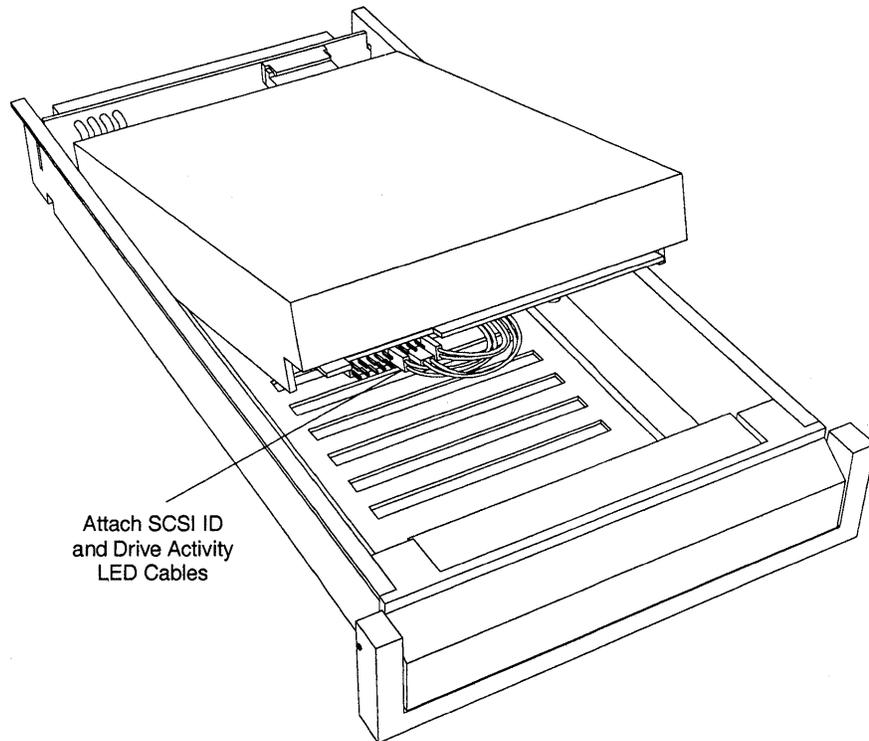

Figure 1-3: Disk drive tray LED and SCSI ID cables
- 5 Connect the SCSI ID and LED cables to the drive as shown in Figure 1-3. Be sure to route the wires so they do not protrude above the top of the canister. Detailed instructions for each supported drive may be found starting on page A-2 and on CMD's World Wide Web site.